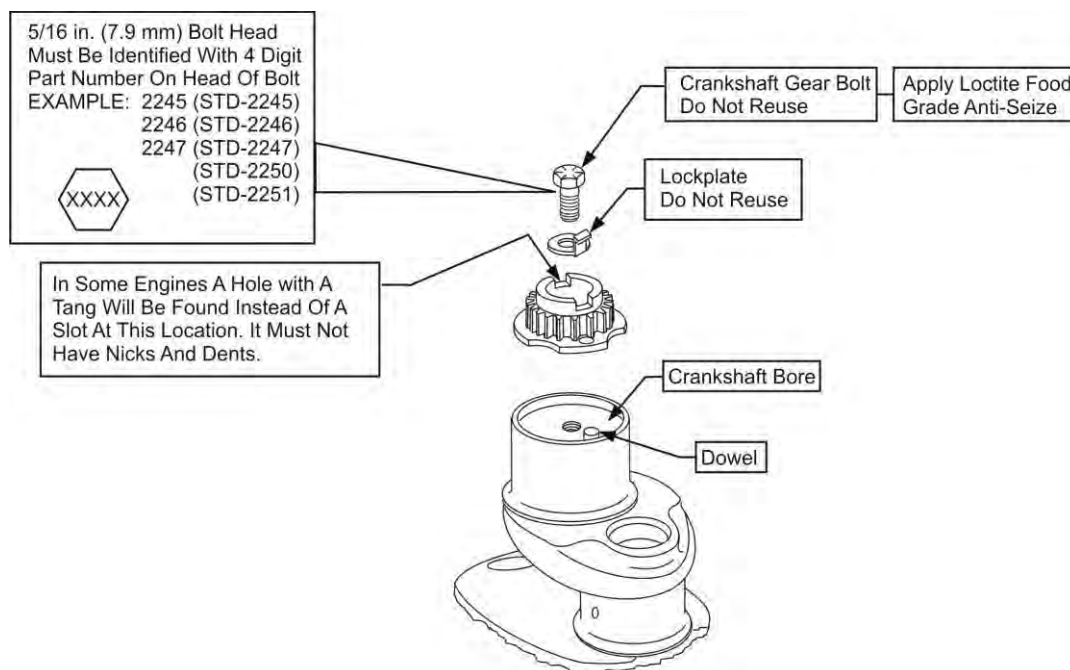

Figure 38
- (1) Start with a clean crankshaft that passed the “Crankshaft Inspection” in this chapter.
- (2) Make sure the mating surfaces of the crankshaft gear and crankshaft counterbored end are clean and dry and that there is no debris. Refer to the procedure “Crankshaft Cleaning” and Crankshaft Counterbore Cleaning” in Chapter 5-30 in this manual.
- (3) Install the crankshaft gear on the alignment dowel of the crankshaft counterbored end as shown in Figure 38.
- (4) Refer to the latest revision of Service Bulletin No. SB-475 or the *IO-360-N1A Illustrated Parts Catalog* to identify the correct part number for the new crankshaft gear bolt and lockplate for the applicable crankshaft gear part number.
- (5) Make sure that the threads on the new crankshaft gear bolt (Figure 38) and the threads in the counterbored end of the crankshaft are clean and dry and that there is no debris.
- (6) Apply a small amount of Loctite® Food-Grade Anti-Seize Lubricant, (Table 4), to the bottom three or four threads of the new crankshaft gear bolt. Wipe away any excess lubrication.